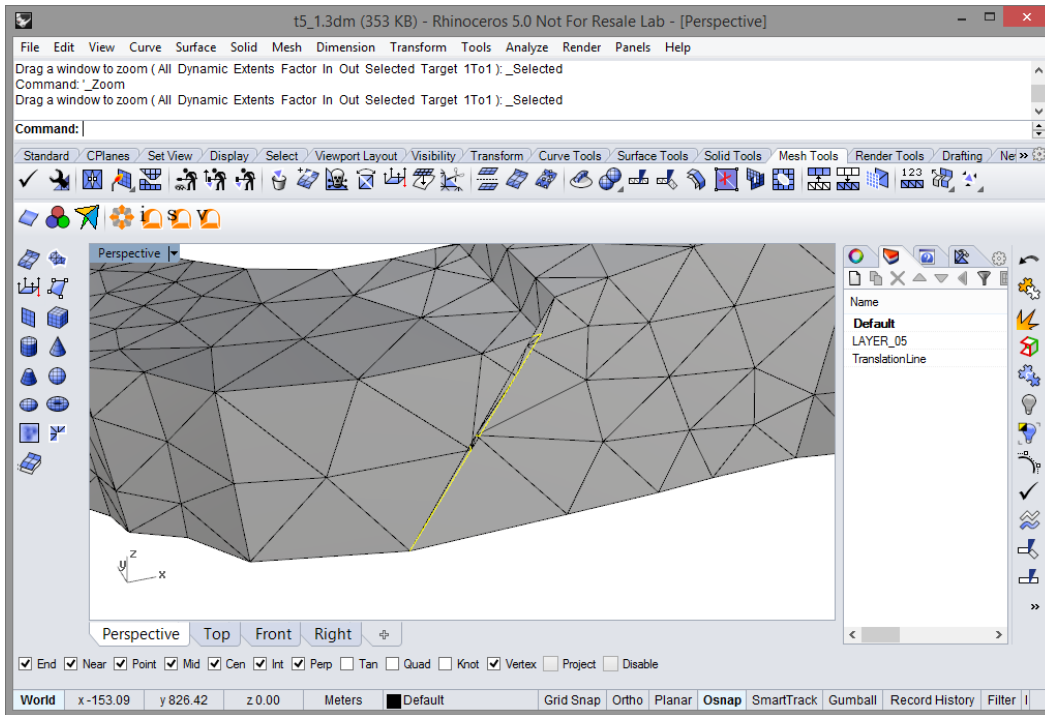

Figure 108: Area, highlighted in yellow, where mesh intersects itself.
9. Select the mesh and type **_Check** (or **_MeshRepair**). *Rhino* will report, among other things, that this mesh has faces that intersect each other. We could try using the Griddle surface mesh intersector (GInt) to clean up the intersecting faces, however, this mesh contains a fold, with almost parallel faces (a pathological case which GInt does not handle). To see where the intersections occur type **_TestMsx** (and select the mesh), then type **_SelCrv** (to select curves that represent where the mesh intersects). The **_TestMsx** is a test function in *Rhino* that calculates the intersection lines of meshes. While the curves are selected, in the menu **View | Zoom | Zoom Selected** to zoom into the problem area of the mesh (Figure 108).